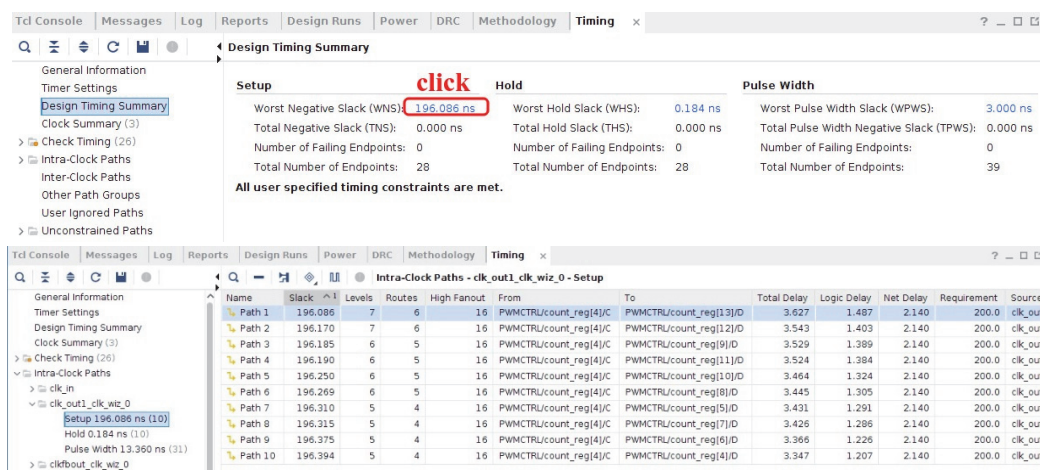

Fig. 7(b). Static Timing Analysis report
- 4.2.4.1 You will see a Timing Report as shown in Fig. 7(b). There are common statistics like Negative Slack and Hold Slack.
- 4.2.4.2 Click on some links with underline and more details will pop up, such as the critical paths. When you click on a critical path, it will be highlighted in white lines in the device view, as in Fig. 7(a). You can use Ctrl+MouseScroll to zoom in/out in the device view.